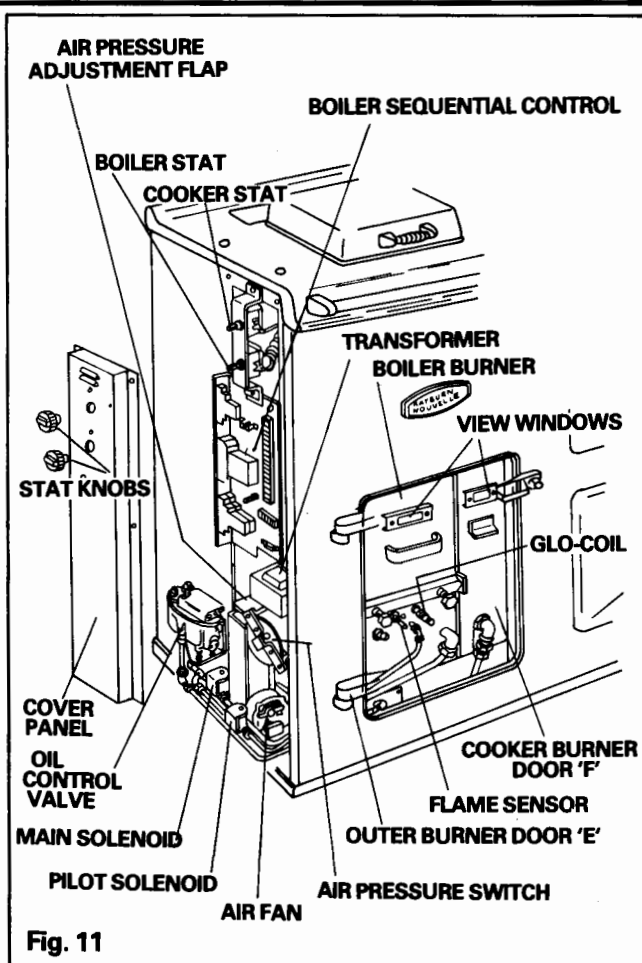

Fig. 11
2. (i) Unscrew the pinch screw locating the Flame Sensor and withdraw the Sensor from the combustion chamber. See Fig.11.
- (ii) Detach electrical connections at ignition glo-coil. See Fig.11
3. Slacken off boiler burner retaining tie bar bolt, remove tie bar, and holding the strap handle, horizontally withdraw the boiler burner forward gently, until clear of appliance. See Fig.11.
- (v) Connect the main and pilot oil feed supplies/controls between the Oil Control Valve and the boiler burner. See Fig.11.
2. Adjust excess air pressure via air pressure adjustment flap on top of air duct at the L.H side of cooker. (See fig 11.) No adjustment of the air pressure switch is needed.